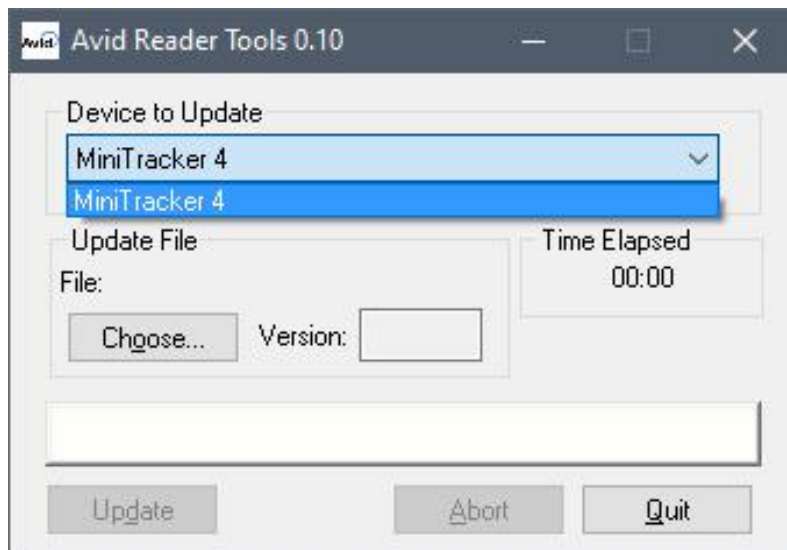

Figure 22: *Selecting device to upgrade.*
1. Run  to bring up the Avid® Reader Tools application shown in Figure 22.
2. Select "MiniTracker 4" in "Device to Update" as shown in Figure 22.